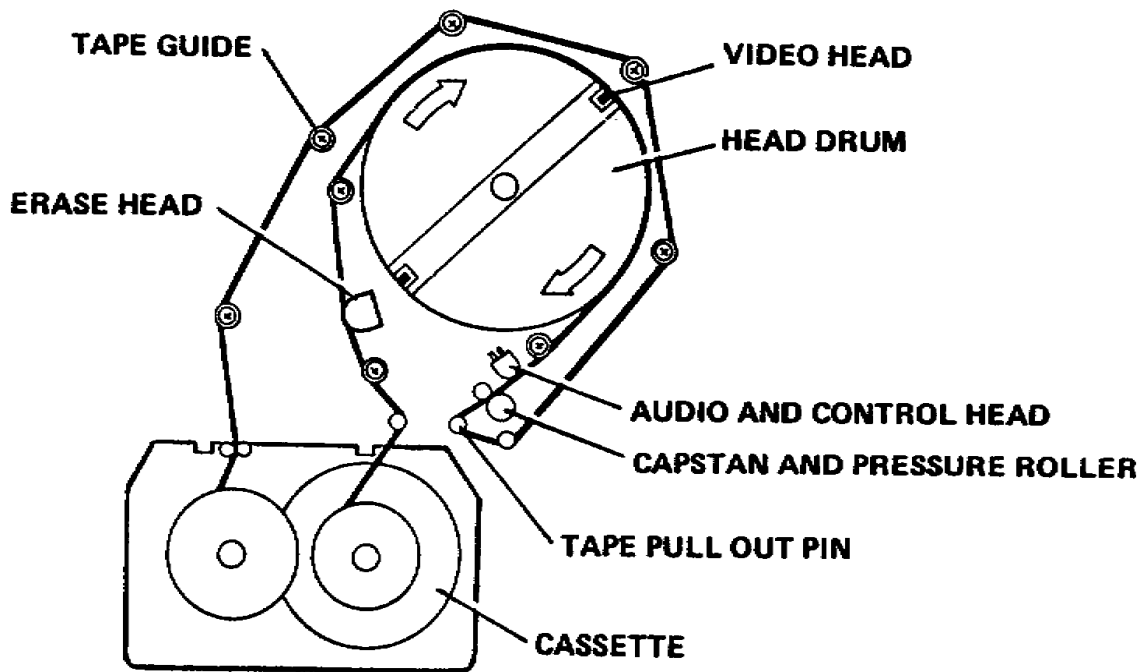

Figure 1-9. Portable recorder threading pattern
2. The great advantage of video cassette recorders or the portable recorder, over the larger reel-to-reel recorder, is the ease of operation (fig 1-9). There is no need for you to thread the tape from the supply reel past the head assembly to the takeup reel in a more or less complicated path.